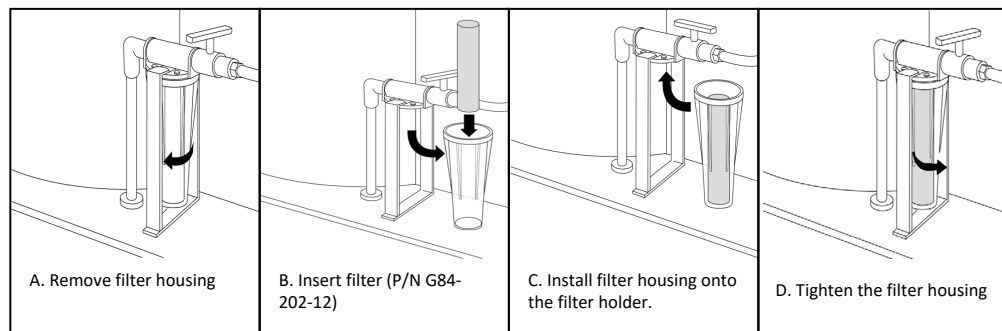

Figure 21
10. Remove Filter Housing and drain all residual water from the Housing. Install new Filter and tighten Filter Housing into place (Figure 21).